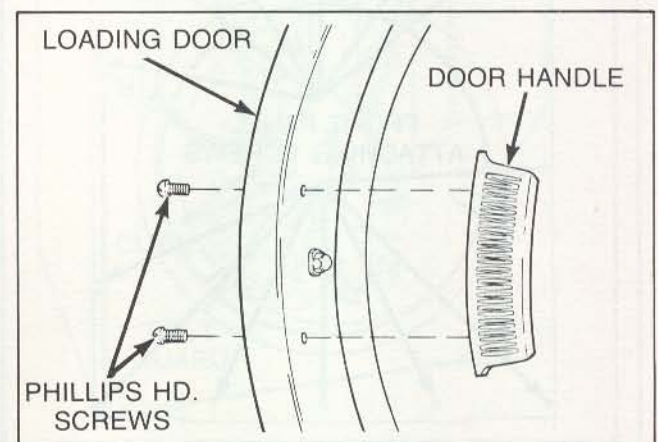

Figure 11
9. **DOOR HANDLE** (Refer to Figure 11)